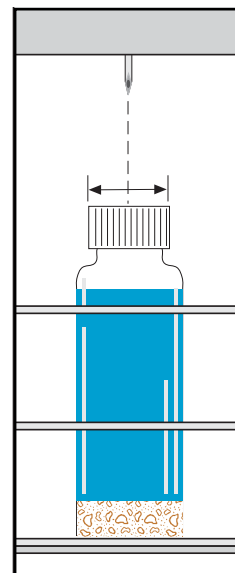

Figure 5.1. Needle Alignment
6. Center the needle above the vial by manually moving the platter under the carousel (see Figure 5.1).